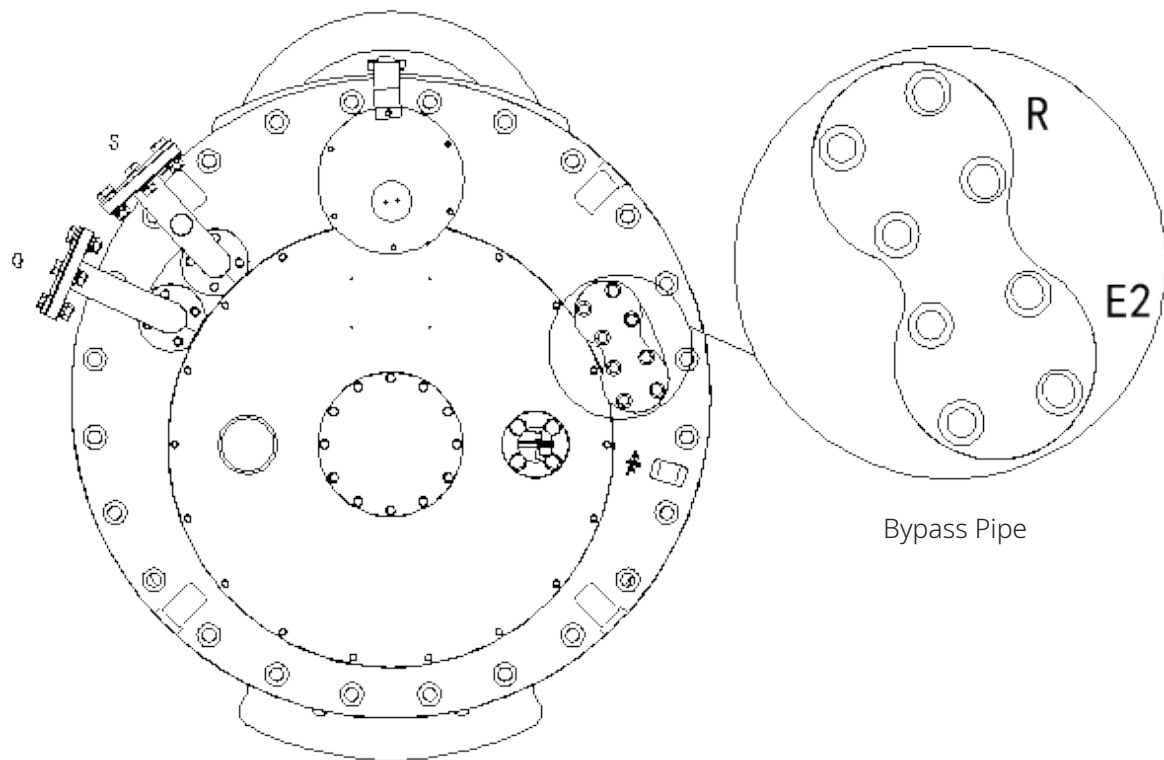

Figure 7-1 Location of Elbow Pipes on the OLTC Top Cover
1. Disconnect the elbow pipes E2 and R from the OLTC mounting flange (see Figure 7-1).
1. Disconnect elbow pipes E2 and R from the OLTC mounting flange (see Figure 7-1).